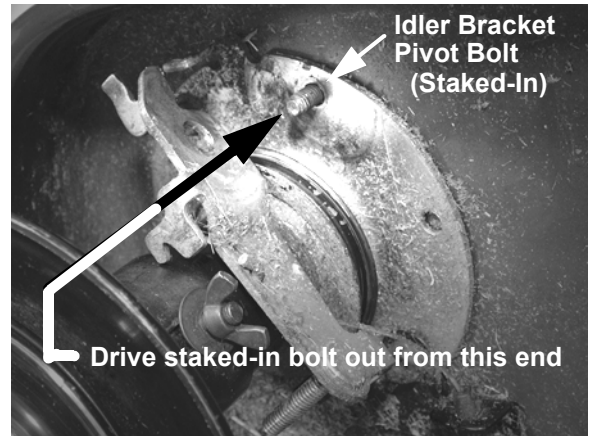

Figure 4
- 10. Refer to Figure 4. Place a large drift pin or other suitable metal rod against the threaded end of the staked-in Idler Bracket Pivot Bolt. With a hammer drive the staked-in bolt back out of the Trimmer's Base. There may be slight raising of the Trimmer's Base around the hole after staked-in bolt removal. Carefully tap this raised area back flush with the Trimmer's Base.